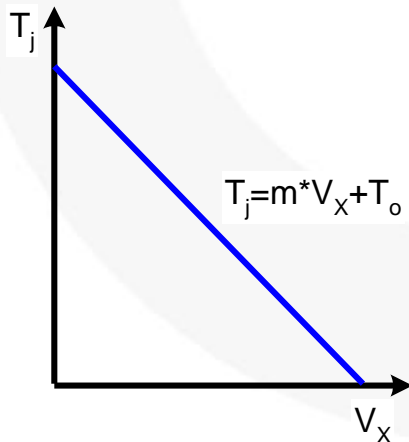

Figure 9. Example of a TSP Plot with Constant Sense Current
1 – 10 mA can be used, depending on the device type. The measurements are repeated over a specific temperature range with some specified temperature steps. Figure 9 shows a typical result.
For semiconductor junctions; the slope, m , of the straight line in Figure 9 is always negative, i.e., the forward conduction voltage decreases with increasing junction temperature. This process of obtaining Equation (4) is called the calibration procedure for a given device.